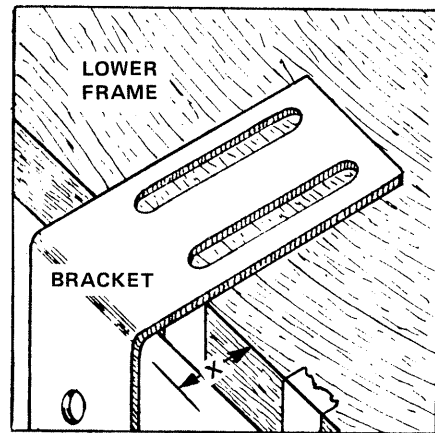

FIGURE 8-7 Adjust the Bracket to dimension X as shown.
Refer to line (1) under STEP 8-8 on the Check List. Using the measurement written there, adjust the top of the Bracket until it is a distance equal to the measurement above the top of the Lower Frame as shown in FIGURE 8-7 (dimension X).